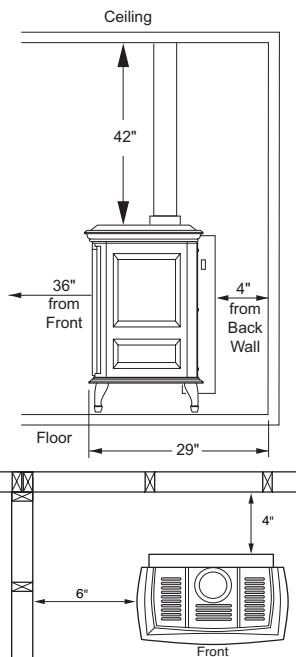

Figure 3 - Clearances for Standard Installation
- Proper clearances must be maintained. See Figures 3 and 4, pages 6 and 7.